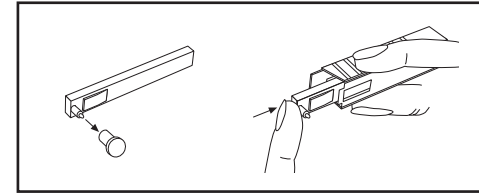

Figure 4. How to Install the Pens
2. Remove the pen caps and place on the posts near the light bulbs. Install the pens as shown in Figure 4. The green pen goes in the pH pen arm and the red pen goes in the temperature pen arm.